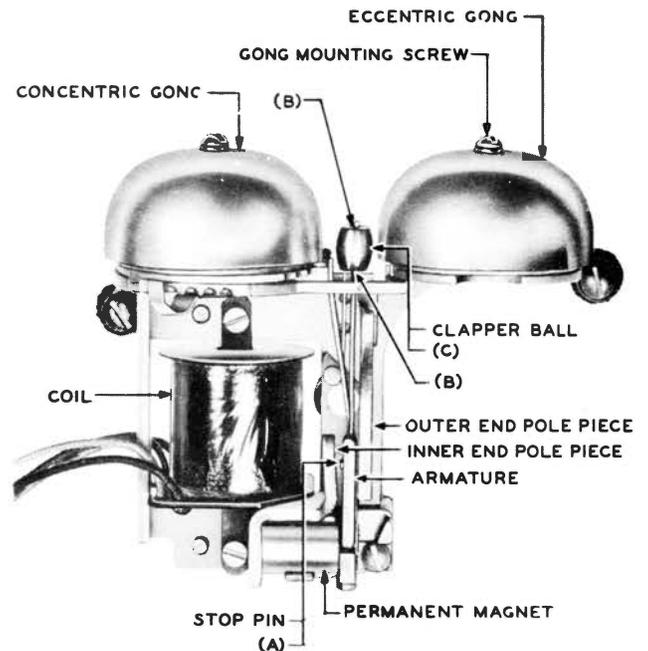

Fig. 1 - Points of Lubrication
(1) Fig. 1(A) - One application to the end of the stop pin.
(1) Fig. 1(B) - One dip to each end of the clapper ball at the clapper rod.
(2) Fig. 1(C) - One dip to the curved surface of the clapper ball.